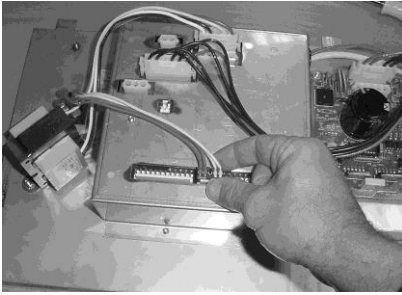

Figure 2-58
3. Pull the power switch connector from back of panel. Figure 2-58.